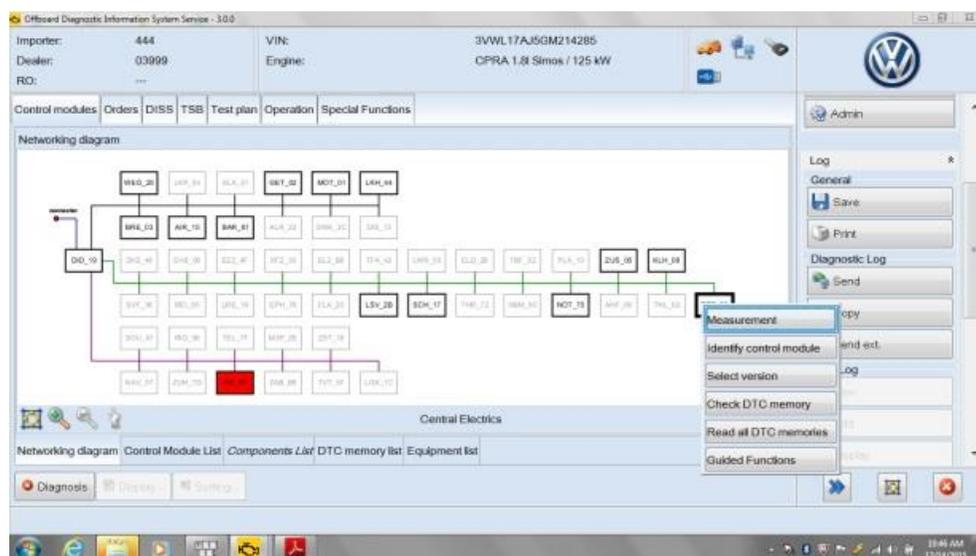

Figure 1
- Right click body control module and select guided functions. (Figure 1)